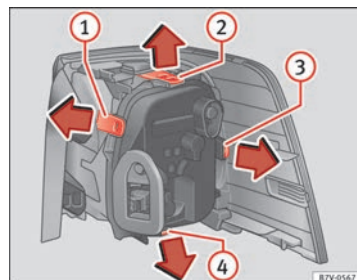

Fig. 214 Tail lights on bodywork: To remove the lamp holder. (1) to (4): Attachment tab.
⇒ fig. 214 ① to ④ in the direction of the arrow.